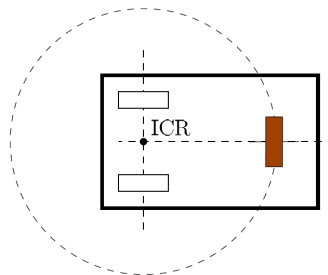

Fig. 3. Case that steering direction $\alpha(t) = 90^\circ$
Fig. 3 shows case of Eq. (3) and ICR coincides with the special point of the mobile platform and the mobile platform rotates in place^[3].